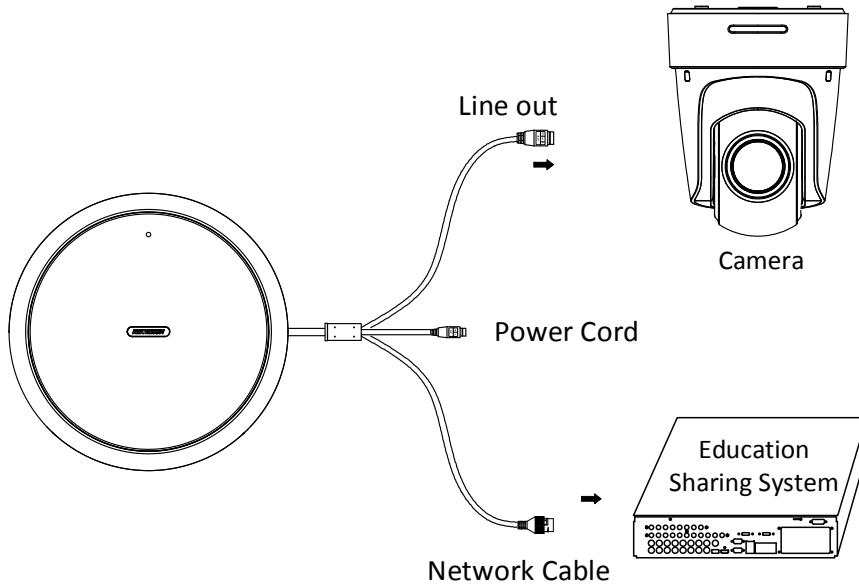

Figure 1-3 Using Scenario II
- The microphone can also directly connect to the education sharing system. Refer to Figure 1-3 for detailed information.